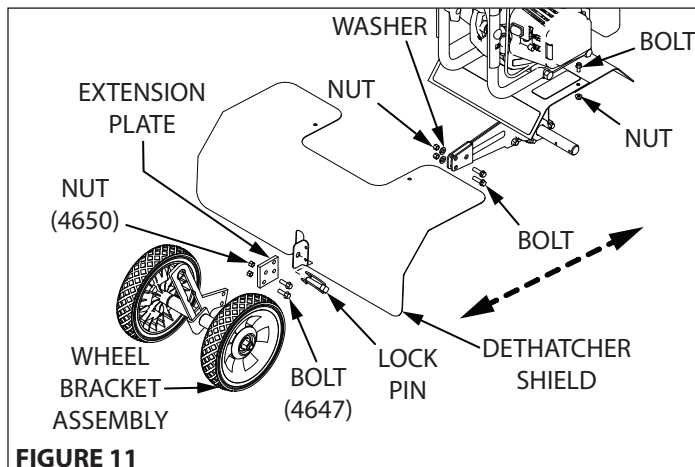

FIGURE 11
2. Unscrew mount bolts/nuts that connect the wheel bracket to the drag stake mount and set wheel bracket aside. **SEE FIGURE 11**
3. Slide dethatcher shield over the unit's tine shield from the rear of the unit and secure using bolts and nuts. **SEE FIGURES 11 & 12**
4. Secure the lower part of the dethatcher shield to the drag stake mount using the lock pin. **SEE FIGURE 11 & 12**
5. Install wheel extension plate (4676) using additional bolts (46142) and nuts (4650). Make sure wheel extension is facing the correct direction. (The side, with the two holes flush to the edge, connects to the drag stake mount) **SEE FIGURE 11**